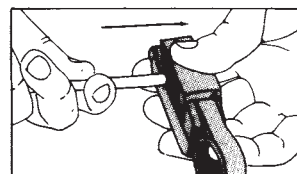

FIGURE 8
**G. MOVE SLIDE BACK ONE POSITION.** Then pull cable out carefully while squeezing tool (Fig. 8). If there is too much resistance or strip is imperfect, go to step "H".